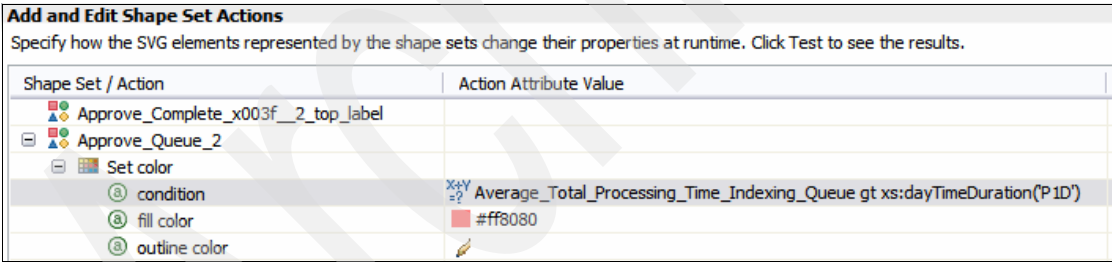

Figure 7-106 Add and Edit Shape Set Actions section - Setting the color to #ff8080
3. Under Add and Edit Shape Set Actions (Figure 7-106):